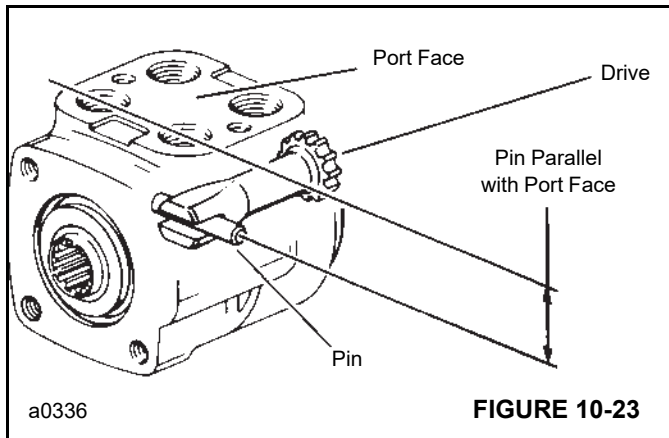
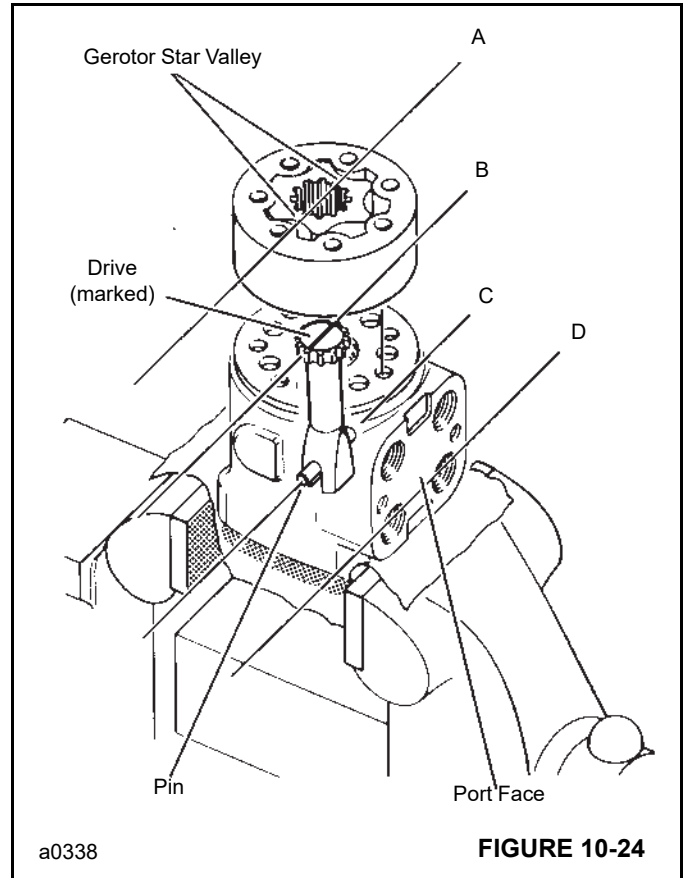

FIGURE 10-23
FIGURE 10-24
20. Rotate the spool and sleeve assembly until pin 11 is parallel with the port face (Figure 10-23) Install drive (15, Figure 10-13), Make sure you engage the drive with pin 11. To ensure proper alignment, mark the drive as shown in (Figure 10-24), Ref. B. Note relationship between the slotted end of the drive to the splined end of the drive when marking.
22. With seal side of the gerotor toward spacer plate 14, align star valleys (Figure 10-24) Ref. A) on drive (Ref. B). Note the parallel relationship of reference lines A, B, C and D. Align bolt holes without disengaging the gerotor from the drive.